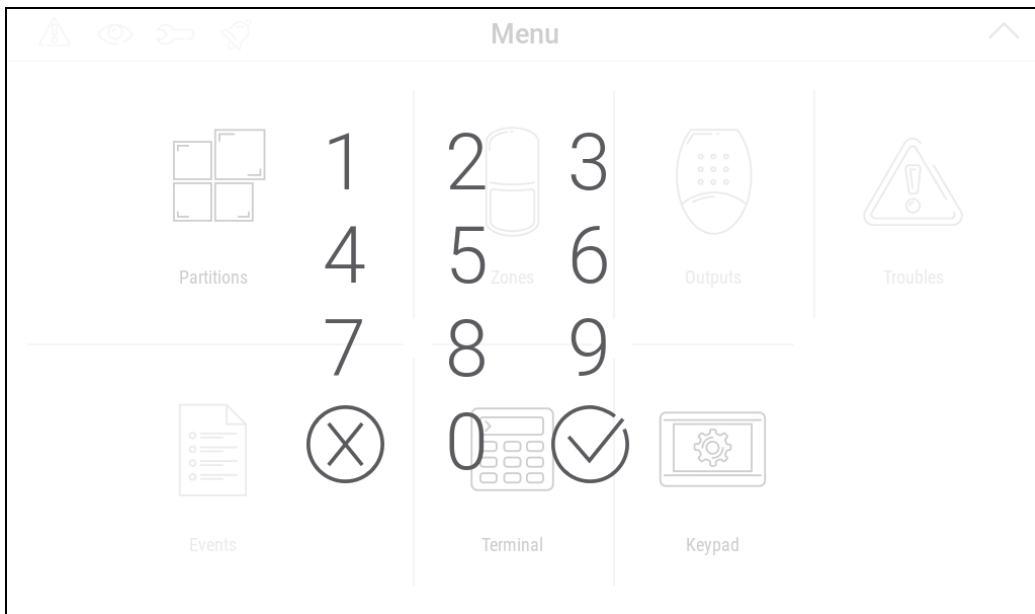

Fig. 13. On-screen keypad.
2. Swipe the screen up. The on-screen keypad will be displayed (Fig. 13).